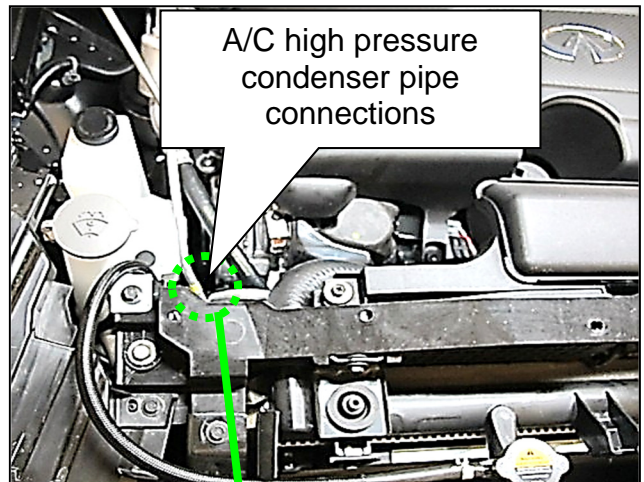
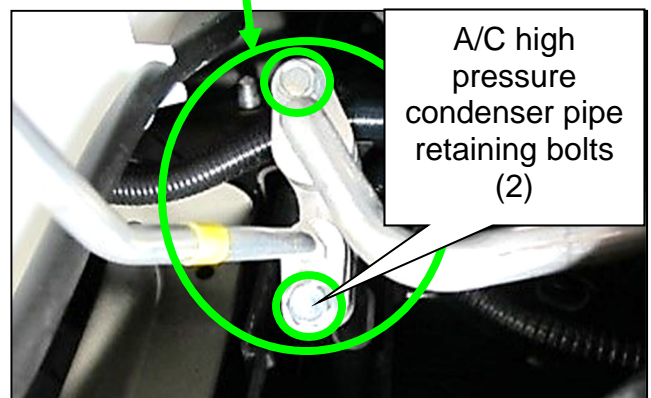

Figure 4
Figure 5
- Locate the A/C high pressure condenser pipe connections in the engine compartment, where shown in Figure 4 and Figure 5.
- Remove the two (2) 12 mm A/C high pressure condenser pipe retaining bolts in the engine compartment, where shown in Figure 5.